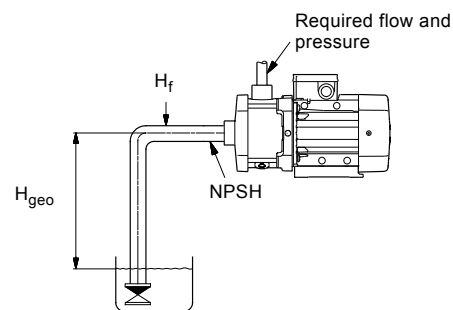

Fig. 24 Dimensional data
- dimensional data such as pressure loss as a result of height differences, friction loss in the pipework, pump efficiency, etc. (see fig. 24)